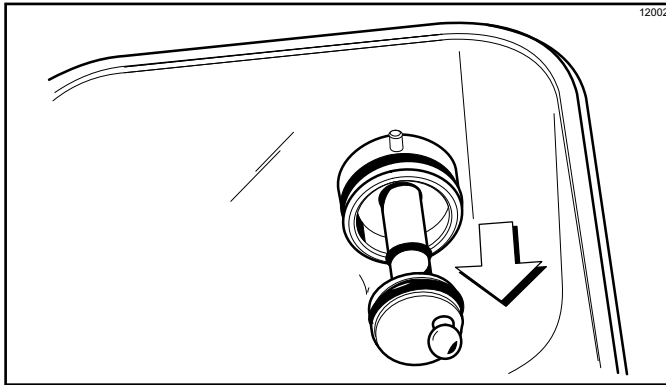

Figure 6-53
- Remove the pump driveshaft from the drive hub in the rear wall of the mix hopper. (See Figure 6-53.)